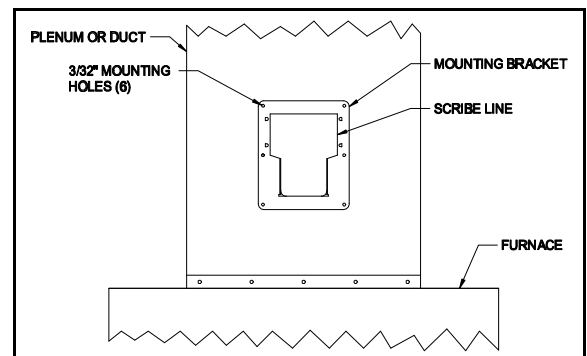

Figure 2
2. Hold the mounting bracket against the plenum or duct where the unit is to be installed making sure that it is level. Scribe marks for the six holes and a line around the inside opening. (See Figure 2) Scribe a radius at each of the bottom corners of the opening so that the cut-out will fit the bottom contour of the pan (a corner of the mounting bracket may be used as a guide).